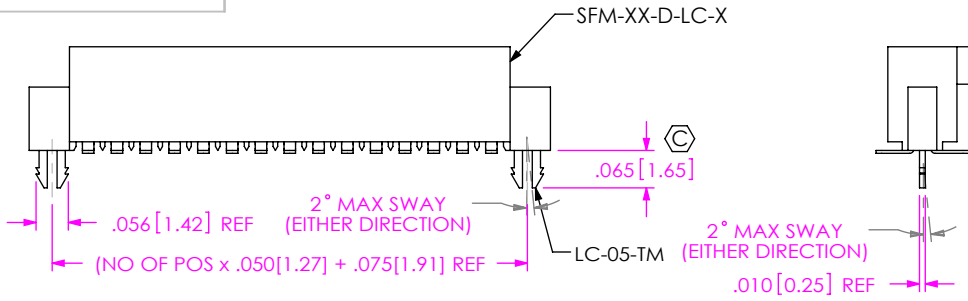

FIG 6
- LC: LOCKING CLIP (SEE FIG 6, SHT 3 & NOTE 8) (AVAILABLE ON ALL LEADS)